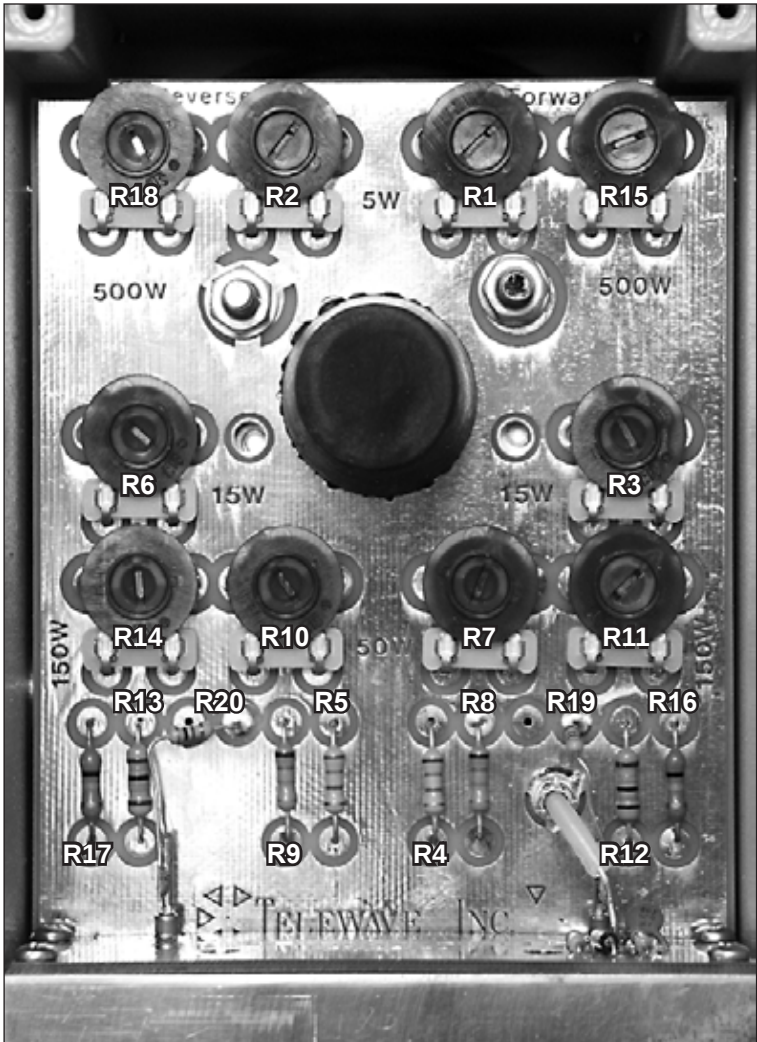
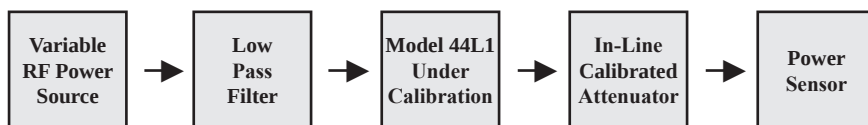

Figure 6-1: Adjustment Potentiometers and Parts Location
Figure 6-2: Calibration / Adjustment Equipment Setup
- 6.06** Remove the four bumper screws from the rear panel. Remove the rear panel. Figure 6-1 illustrates the adjustment locations. Refer to Figure 6-2, Equipment Setup. Perform the calibration / adjustment for Forward and Reverse direction as follows: